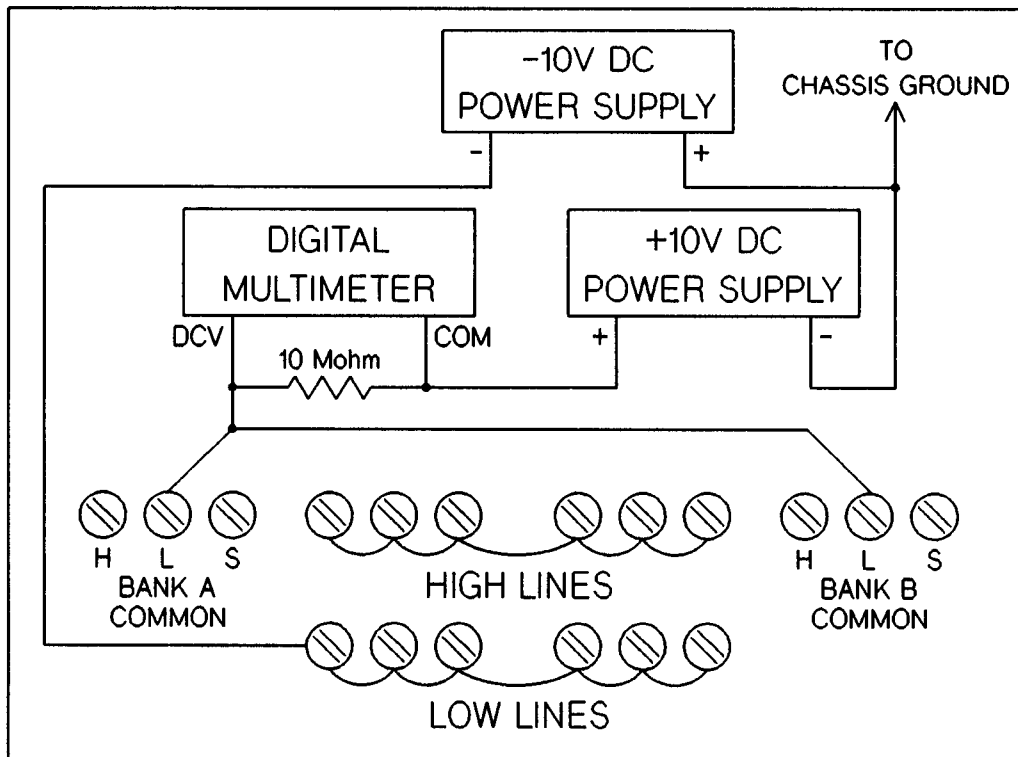

Figure 10-19 HP 44711A Open LOW Channel Test-Setup
10. Refer to Figure 10-19. Connect the negative power supply's negative lead to the shorted **LOW** lines on the test fixture. Connect the negative power supply common lead to the chassis.